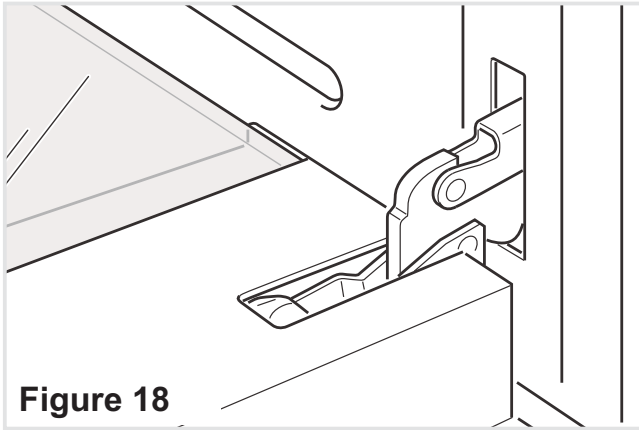

Figure 18
- Open the door to the full extent (fig. 18).